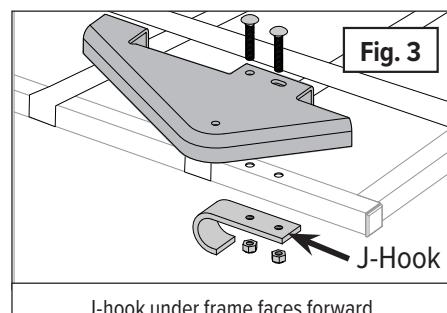

Fig. 3
2. **(Fig. 3)** At the **BACK** of the Collector Frame, place one of the Extender Brackets over one side of the frame. Then, install the two 5/16 x 1.75" carriage bolts down through the bracket and Collector Frame **with the round heads on top**.
3. **(Fig. 3)** Place a J-Hook under the Collector Frame with the curved end facing toward the front of the frame. Fasten the carriage bolts with two nylon lock nuts.